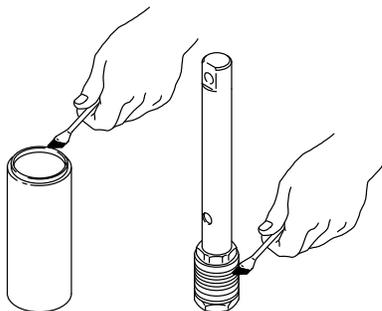

Fig. 31
- Grease the piston packings and the top edge of the sleeve. See Fig. 31.